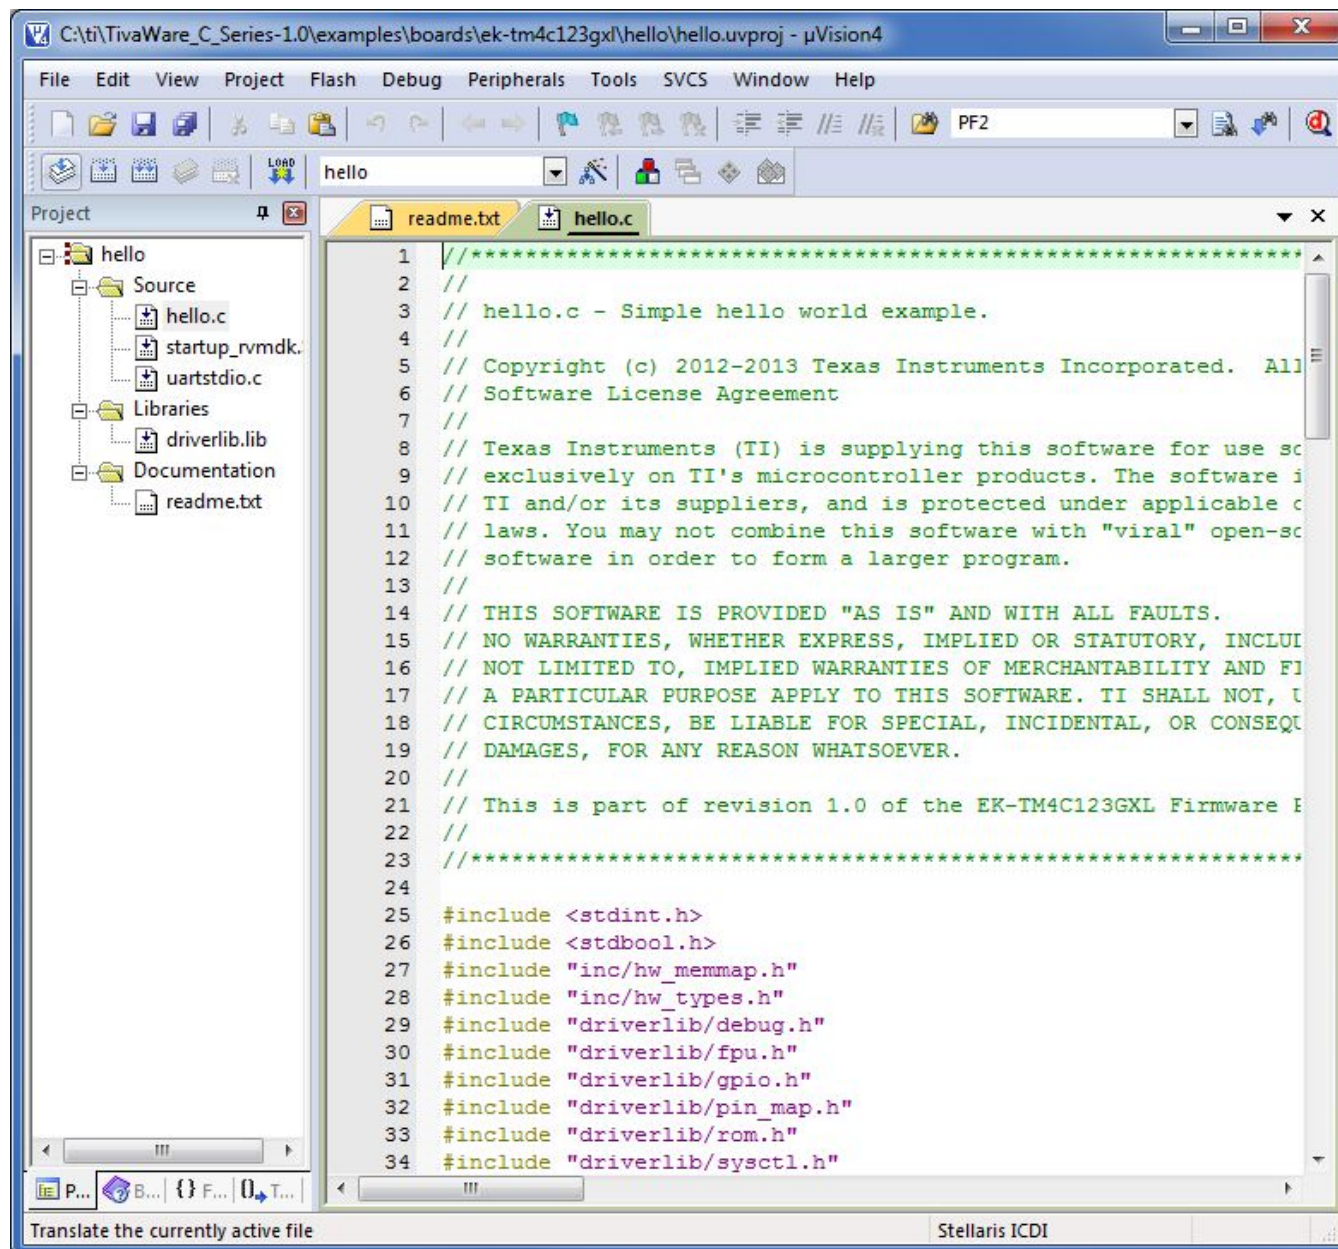

Figure 4.
5. You can view source files in the project by double-clicking a filename in the Project Workspace pane on the left. For example, double-click hello.c, and the source file opens in the editor (see Figure 4).